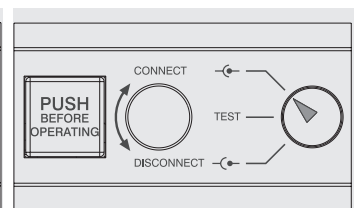

Figure 102
- circuit-breaker in CONNECT position (see Figure 102)